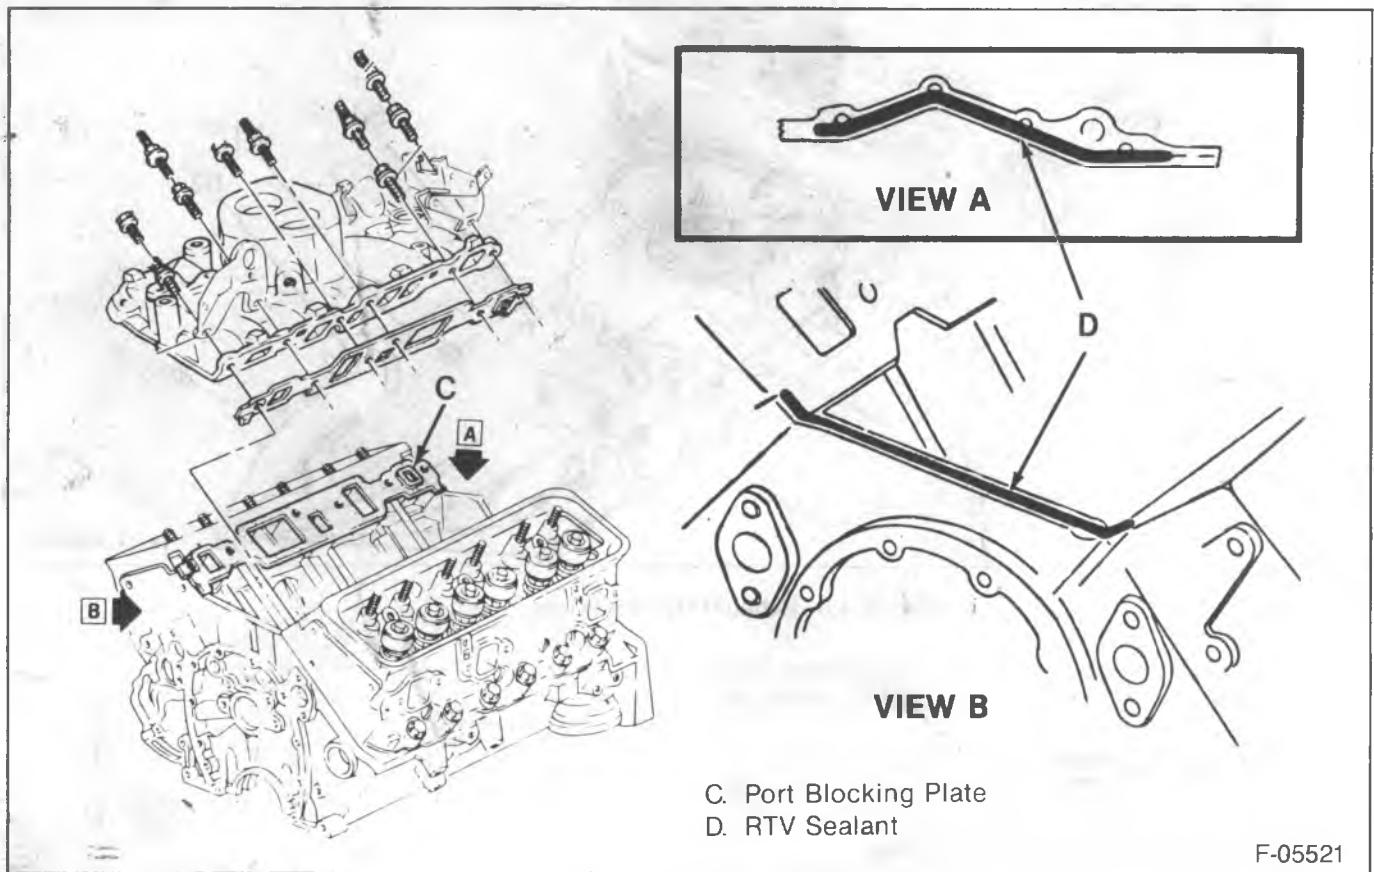

Figure 40—Intake Manifold Installation
Install or Connect (Figures 40 and 41)
2. RTV to the front and rear sealing surfaces on the block. Apply a 5 mm ($\frac{3}{16}$ -inch) bead of RTV (GM Part No. 1052366 or equivalent) to the front and rear of the block as shown in figure 40. Extend the bead 13 mm ($\frac{1}{2}$ -inch) up each cylinder head to seal and retain the gaskets.